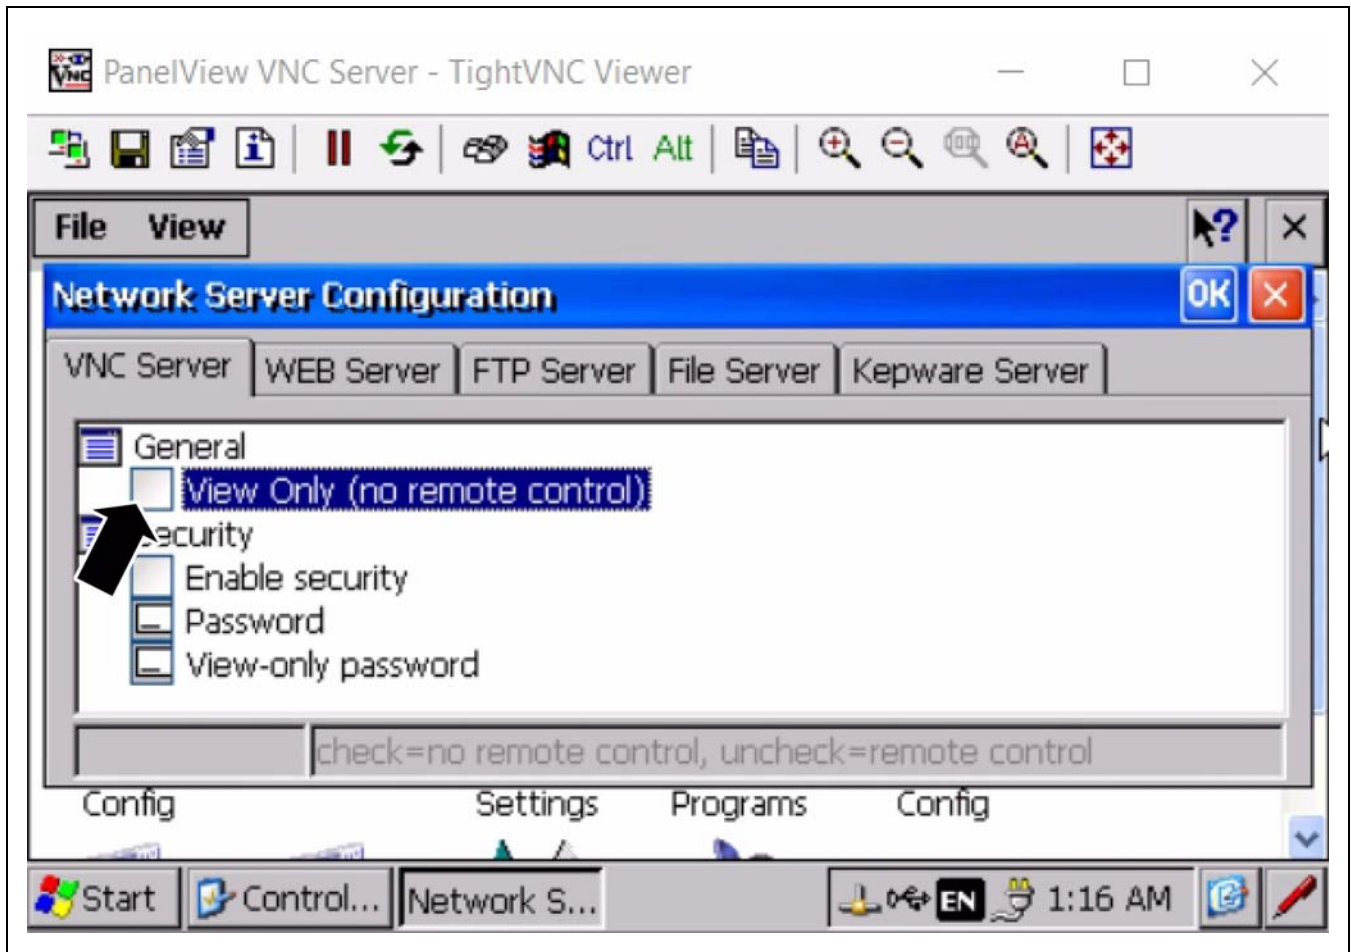

Figure 3L
8. Uncheck the box that says "View Only (no remote control)". (See Figure 3L.)